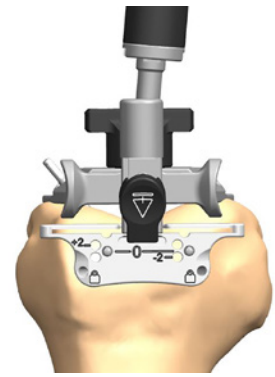

Figure 8
- Using non-headed 65mm SPEED PIN®(s), pin the distal femoral cutting block to the anterior femur using the holes marked '0'. Once adequate distal femoral resection is noted, headed or non-headed 65mm SPEED PIN(s) should be placed in one or both oblique pin holes for additional stability (Figure 8).